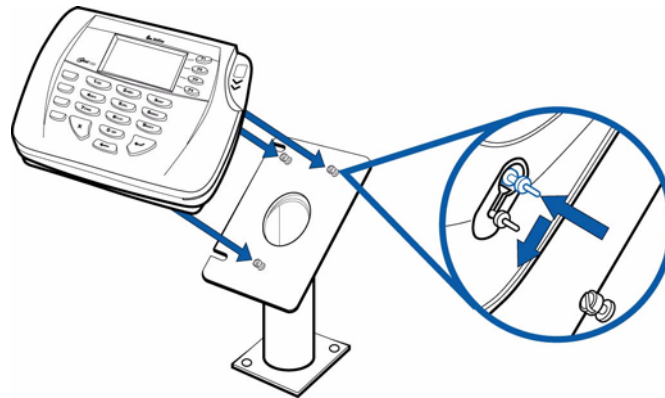

Figure 10 Aligning the Mounting Pins of Omni 7xxxMPD Series
- 5 Align and seat the three pins on the top plate of the stand mount platform with the three key-hole slots on the bottom of the Omni 7xxxMPD series terminal (Figure 10).